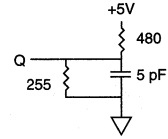

Fig. 2 OUTPUT LOAD EQUIVALENT
- t_{HZCE} and t_{HZWE} are specified with C_L = 5pF as in Fig. 2. Transition is measured ±500mV from steady state voltage.